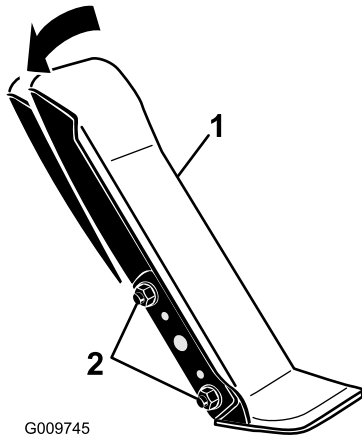

Figure 80
1. Loosen the 2 nuts and bolts securing the left side of the traction pedal to the bracket (Figure 80).
2. Pivot the pedal to the desired operating angle and tighten the nuts (Figure 80).